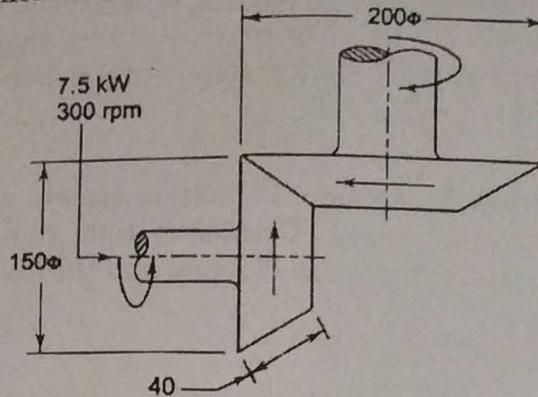

Figure 2
13. (a) A pair of bevel gears transmitting 7.5 kW at 300 rpm is shown in figure 2. The pressure angle is 20° . Determine the components of the resultant gear tooth force and draw a free-body diagram of forces acting on the pinion and the gear.